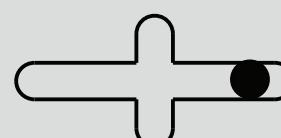

Fig 1
2) Use the #8 x 3/4" Phillips head screws provided to secure the unit to the floor. The slide system can be separated if necessary to aid in installation, but removal is not required. (See FIG 1 and FIG 2)